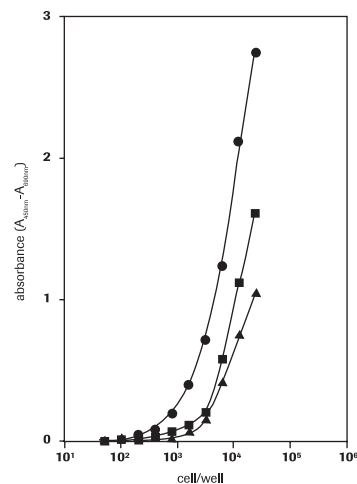

Figure 5a: Comparison of MTT (▲), XTT (■) and Cell Proliferation Reagent WST-1 (●).
- WST-1 has a wider linear range and shows accelerated color development compared to XTT (see fig. 5a and fig. 5b).